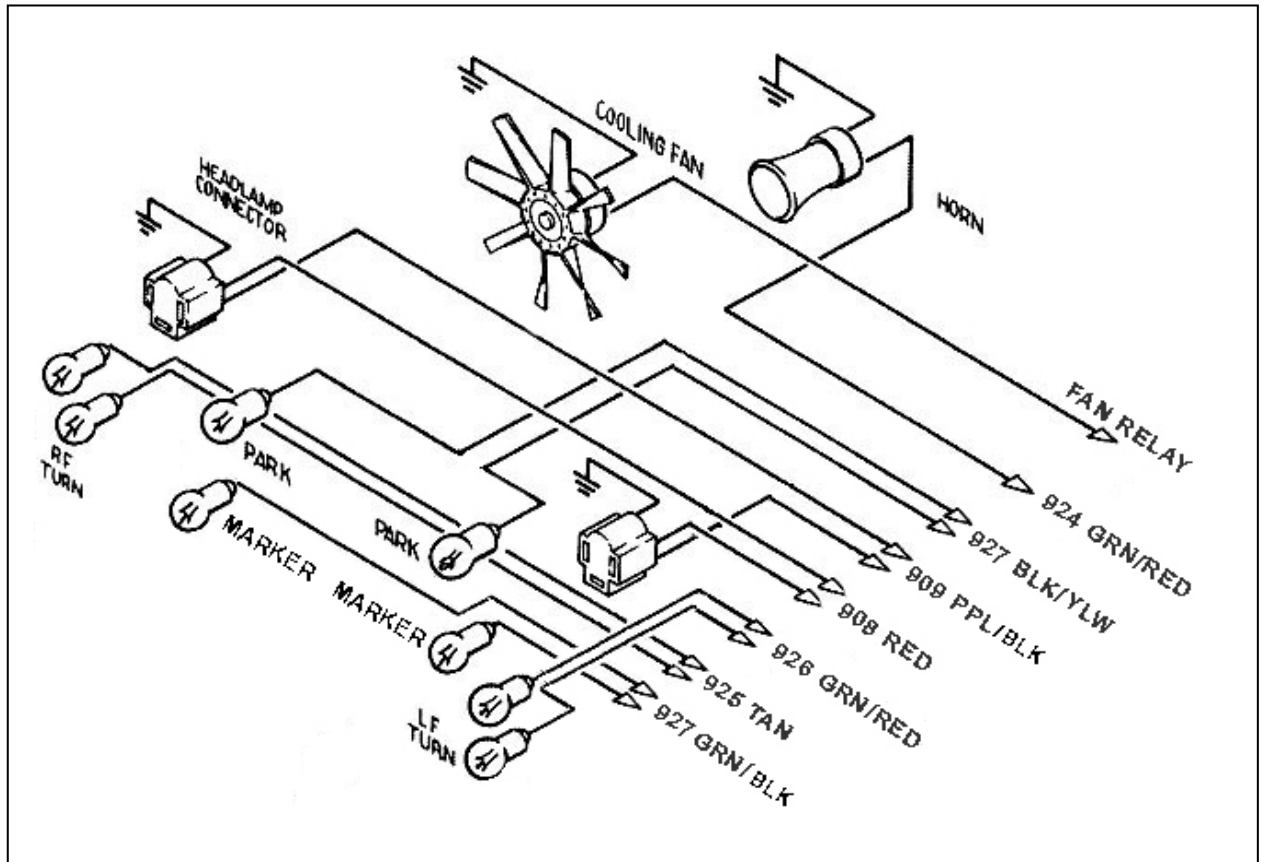

Figure 8-4B HEADLIGHT SECTION A Wiring
8.5 HEADLIGHT SECTION A. See Figure 8-4B.
Note: The wire going to the fan in **Figure 8-4B** will be coming from the fan relay output terminal. Wire #901 (GRY/WHT) from the ACCESSORY SECTION SWITCHES is an activation wire for the fan relay.